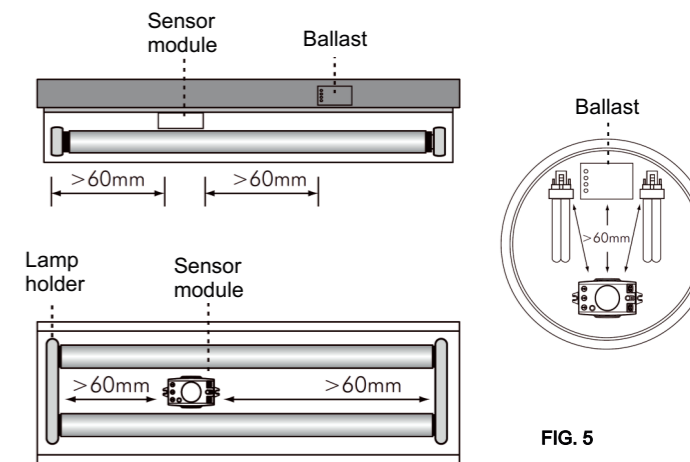

FIG. 5
- 4.3.6 Ensure the sensor module is installed at least 60mm away from ballast, lamp holder, or bulb with filament (See FIG.5).